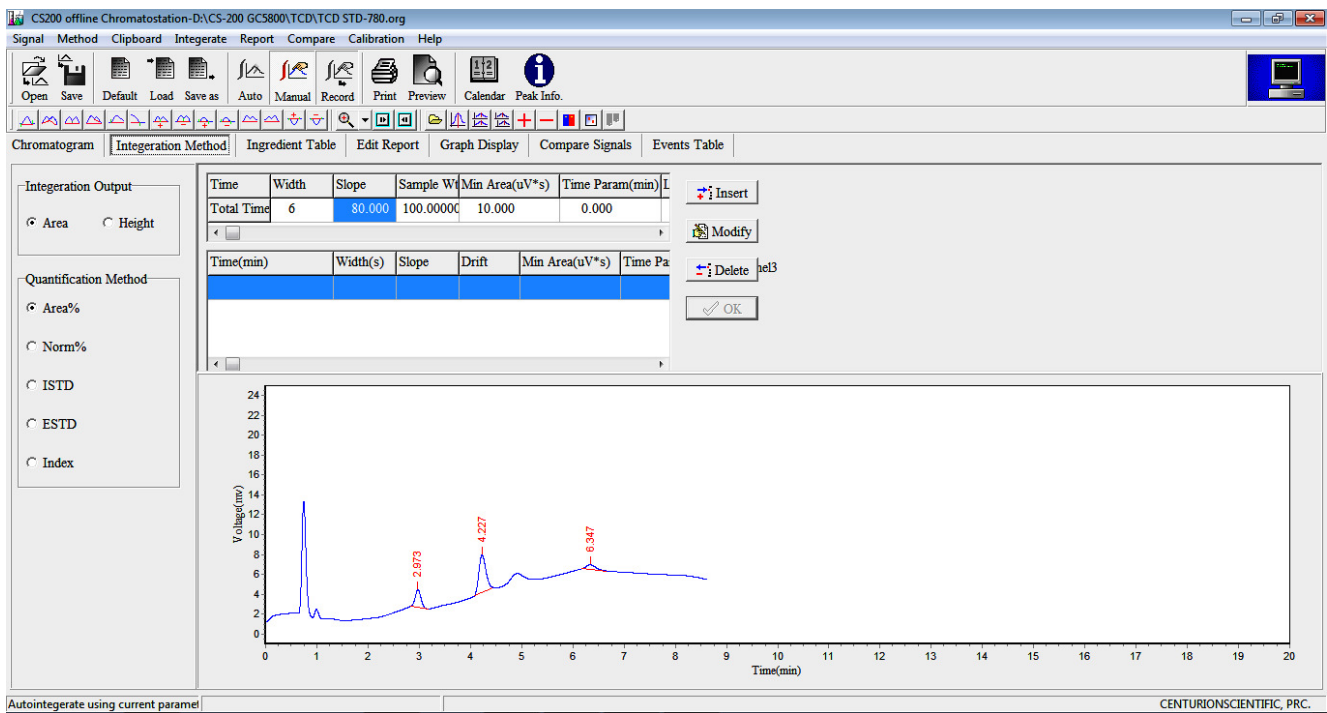

Figure D-200. The Dialog Box for Selecting Integration Method
4. The selected Chromatogram will be loaded and displayed as shown in Figure D-200.